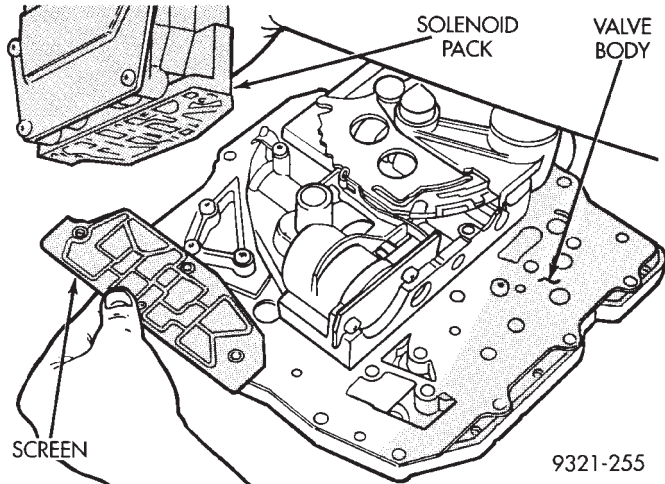

Fig. 42 Solenoid and Screen Removal
- (4) Remove solenoid and screen from valve body (Fig. 42).